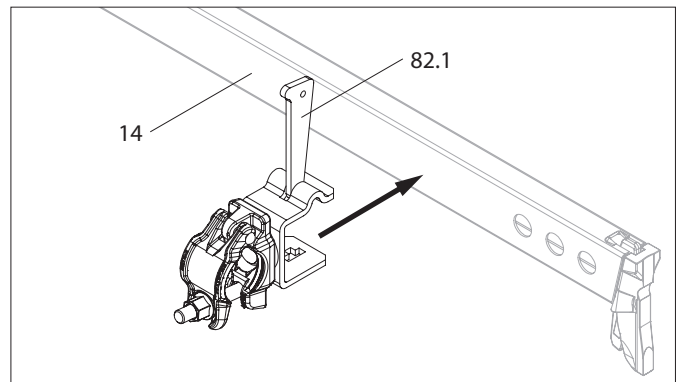

Fig. A10.04a
1. Pull the wedge (82.1) out of the clamping part and put the clamping part over the horizontal ledger (14) from the side. (Fig. A10.04a)